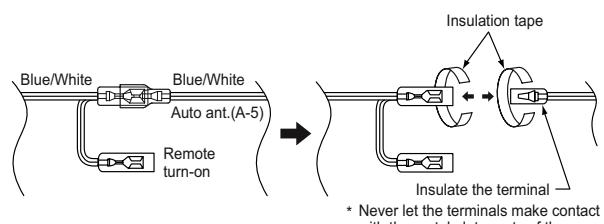

Figure 2
2. When the car stereo is installed in 1998 and later Volkswagen models, remove the auto antenna leads (A-5:Blue/White). Be sure to insulate both the ISO connector side terminal and the main unit side terminal with insulation tape, respectively. (Figure 2)